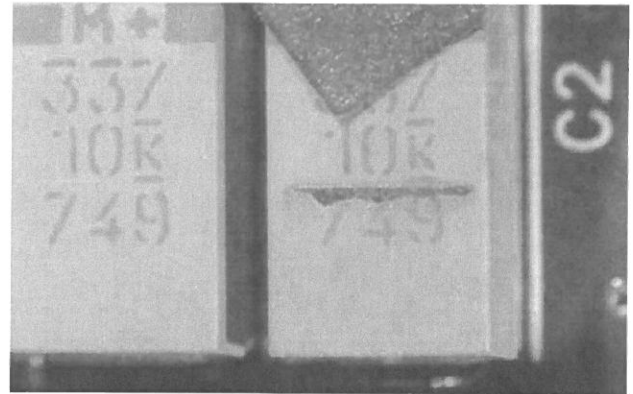

Figure 9-23
- Required identification is missing due to component damage, Figure 9-23.